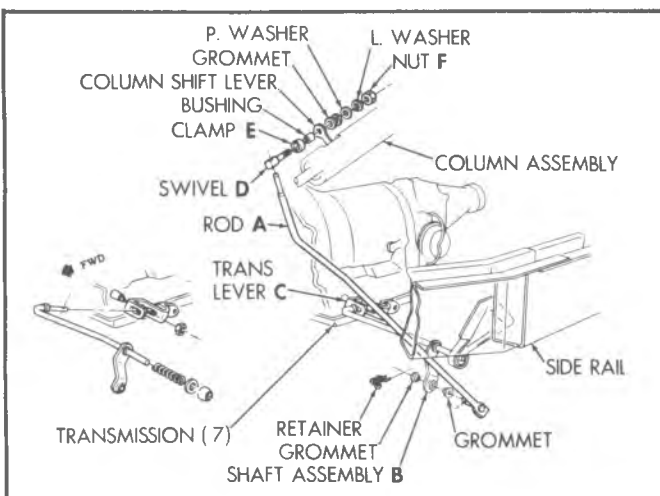

Fig. 2G—Column Shift Linkage - G Series
#### COLUMN SHIFT LINKAGE - G SERIES (FIG. 2G)
4. Attach rod (A) to shaft assembly (B) as shown (fig. 2G).
5. Slide swivel (D) and clamp (E) onto rod (A) align the column shift lever and loosely attach as shown.
7. Tighten nut (F) to 18 foot pounds.